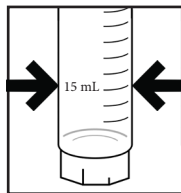

Figure 1
1. **K-6973:** Fill the reaction tube (screw cap tube) to the **15 mL** mark with the sample to be tested (fig. 1).